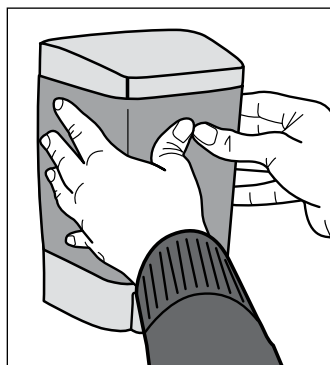

Figure 2
2. Peel off paper from back of tape (included). Press dispenser firmly to wall and hold for at least 30 seconds to make sure tape has completely adhered to wall. (See Figure 2)